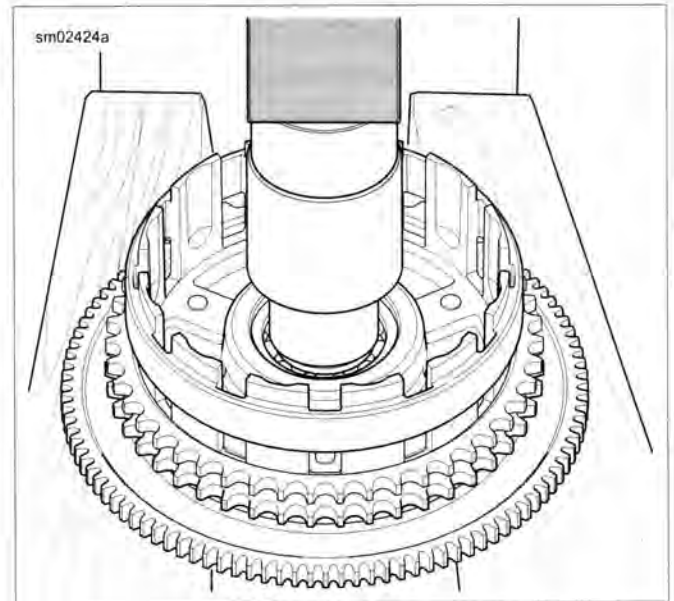

Figure 5-33. Pressing Bearing From Clutch Shell
7. See Figure 5-33. Support clutch shell in arbor press with ring gear side is down. Use a suitable press plug to remove bearing.